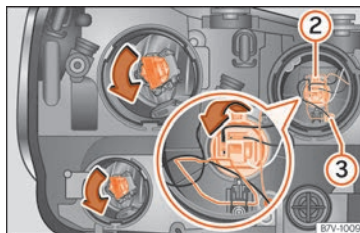

**Fig. 63** Left headlight.
- Press the wire clip downwards and pull the bulb holder  **Fig. 63 ②** out together with the bulb.
- Pull the bulb holder  **Fig. 63 ③** out backwards together with the bulb.